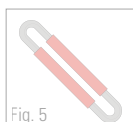

Fig. 5
NoCut® sleeve also offers the perfect all-round cut protection for our heavy-duty round slings. Simply pulled onto the round sling, the protective sleeve made from HPME fibres protects heavy-duty round slings with a load capacity of up to 25 t at the sharp edge of the load. NoCut® sleeve can also be fitted by the user as shown in Figure 3. Single legs of a round sling can also be fitted with NoCut® sleeve at the factory as shown in Figure 5. Ask us about it!
**i** Special designs available on request. Protective sleeves can also be fitted by the user as shown in Fig. 3. Fitting by the factory as shown in Fig. 5 on request.